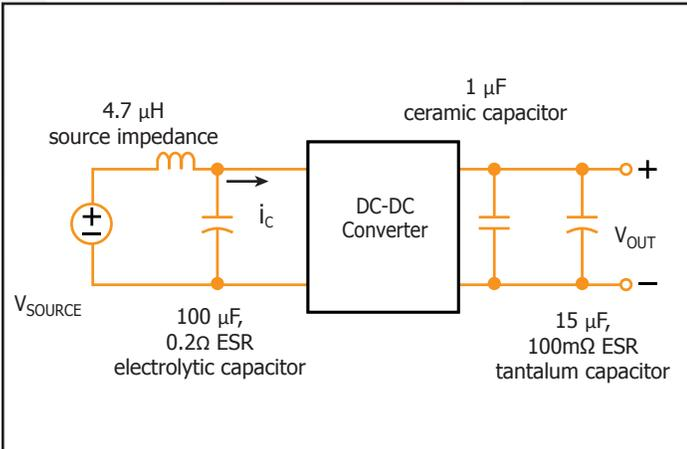

Figure 17: Test set-up diagram showing measurement points for Input Terminal Ripple Current (Figure 9) and Output Voltage Ripple (Figure 10).
**Figure 9:** Input terminal current ripple,  $i_C$ , at full rated output current and nominal input voltage with SynQor MCOTS filter module (200 mA/div). Bandwidth: 20MHz. See Figure 17.
**Figure 10:** Output voltage ripple,  $V_{out}$ , at nominal input voltage and rated load current (20 mV/div). Load capacitance: 1µF ceramic capacitor and 10µF tantalum capacitor. Bandwidth: 10 MHz. See Figure 17.